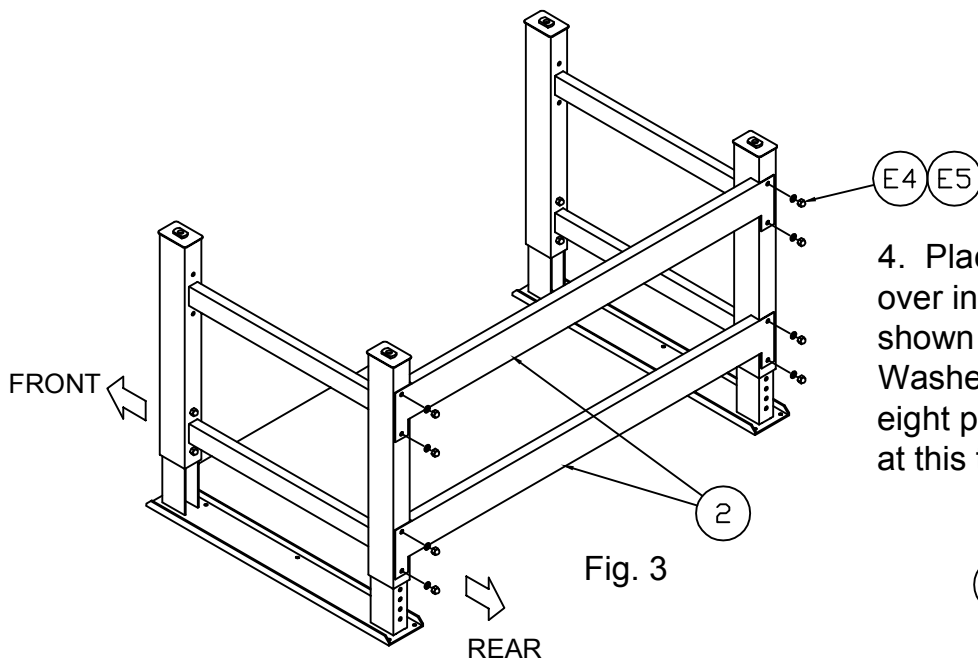

Fig. 3
4. Place Spreaders (2) in position over inserted screws at REAR as shown in Fig. 3. Secure using Lock Washers (E5) and Hex Nuts (E4) in eight places. Do not tighten hardware at this time.